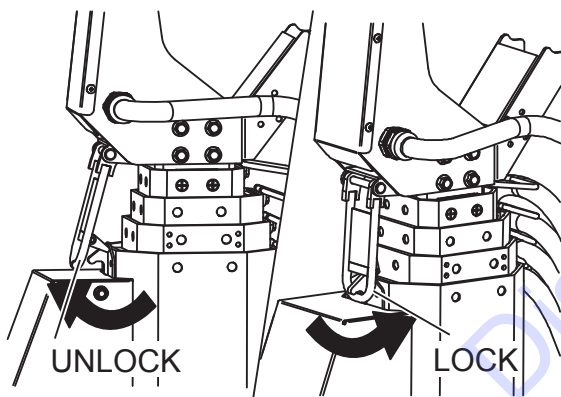

Figure 12. Unlocking the Shackle
1. Unlock the shackle (Figure 12).